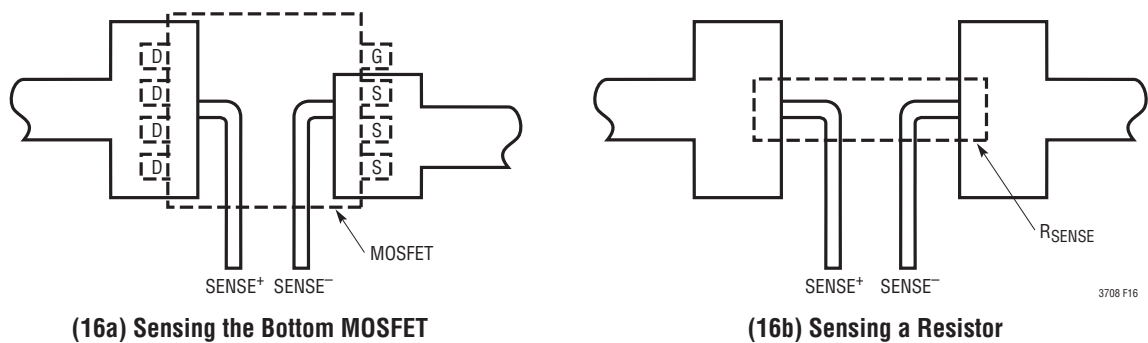

Figure 16. Kelvin Sensing
- Run SENSE+ and SENSE- across the bottom MOSFET (or R_{SENSE} when a separate current sensing resistor is used) with Kelvin connection (Figure 16). Route SENSE+ and SENSE- together with minimum PC trace separation. The filter capacitor (when used) between SENSE+ and SENSE- should be as close to the LTC3708 as possible.